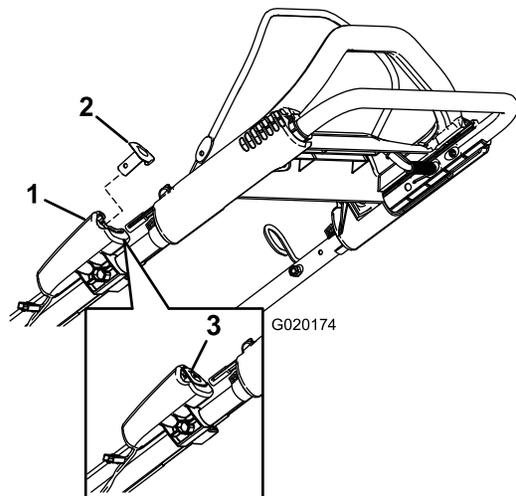
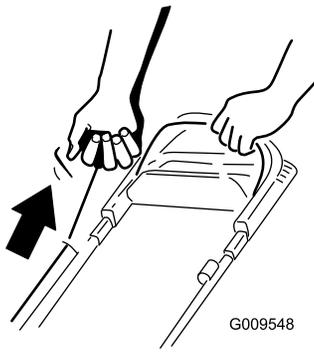

Figure 13
Figure 14
2. Push the electric-start button (electric-start model only; refer to Figure 13) or pull the recoil-start handle (Figure 14).
Note: If the electric-start button has been removed, insert it into the electric starter; refer to Figure 13 (electric-start model only).
Note: When you pull the recoil-start handle, pull it lightly until you feel resistance, then pull it sharply (Figure 14). Allow the rope to return to the handle slowly.